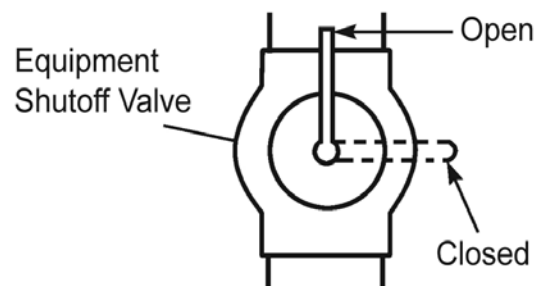

Fig. 21 - Equipment Shut -off Valve
1. Open equipment shutoff valve (See Fig. 21).